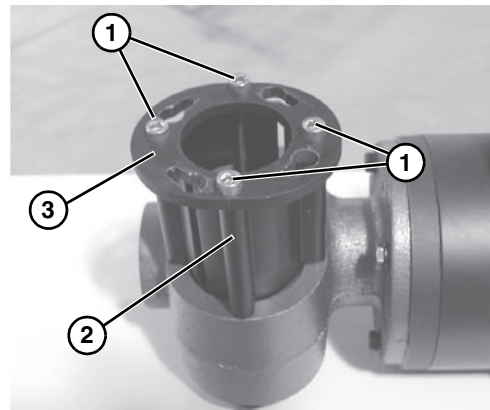

Figure 10
3. Remove the four (4) gearmotor coupling guard screws (Figure 10, item 1) and remove the gearmotor coupling guard (Figure 10, item 2) and mounting ring (Figure 10, item 3).
12. Install gearmotor coupling guard (**Figure 10, item 2**) and mounting ring (**Figure 10, item 3**) to gearmotor, and tighten screws (**Figure 10, item 1**) to 110 in-lb (12 N-m).